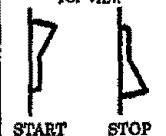

Figure 13
- b. Move Ignition Switch to the "Start" position. Figure 13.
- c. Stop the engine by moving the Ignition Switch to the "Stop" position. Figure 13.